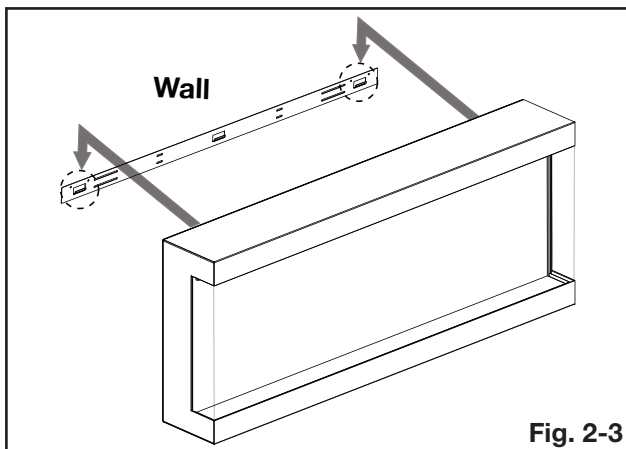

Fig. 2-3
5. With the wall-mounting bracket installed, have two people lift the appliance up and insert the hooks on the bracket into the slots on the back of the appliance (**Fig. 2-3**).